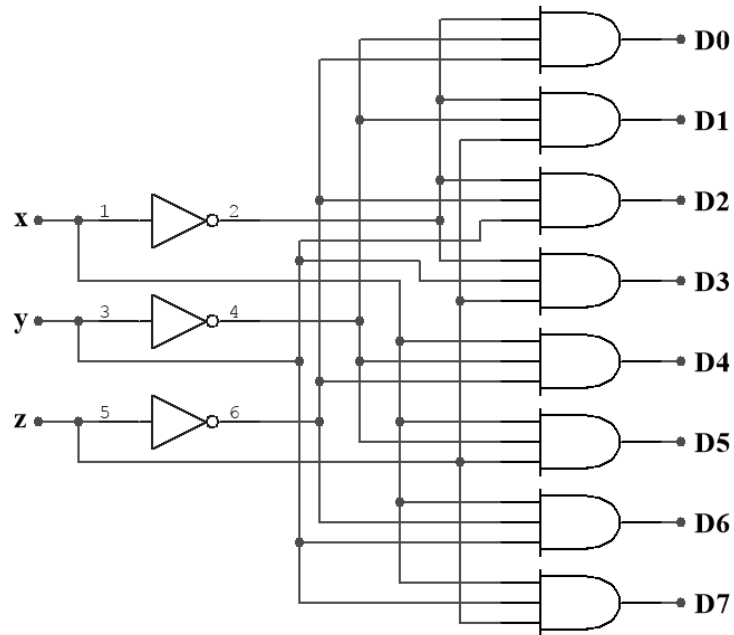

Figure 2.8. Experimental 3 to 8 Lines Decoder
1. Make connections as shown in figure 2.8!
3. Connect input 1 or 0 to decoder circuit as shown in figure 2.8 as per truth table!